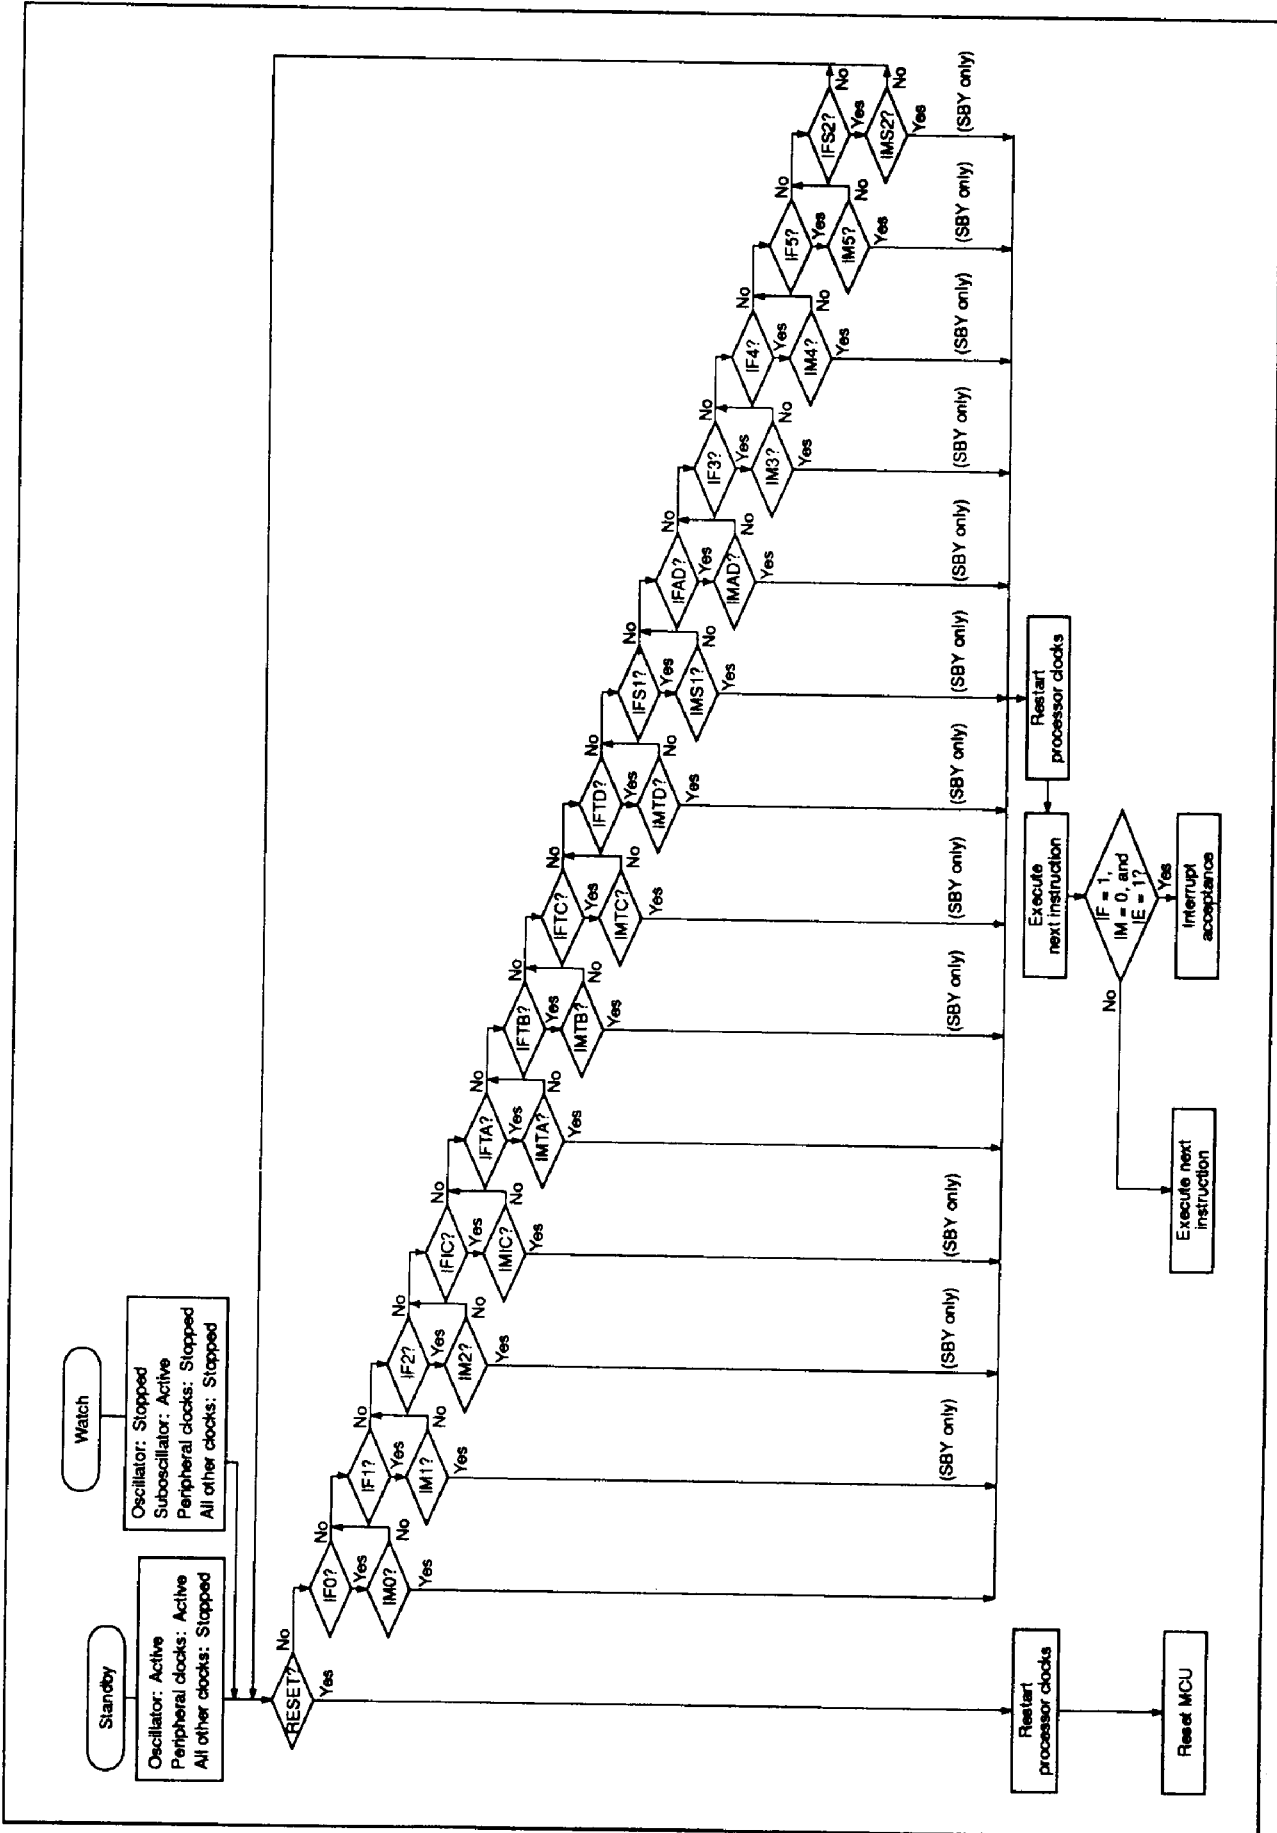
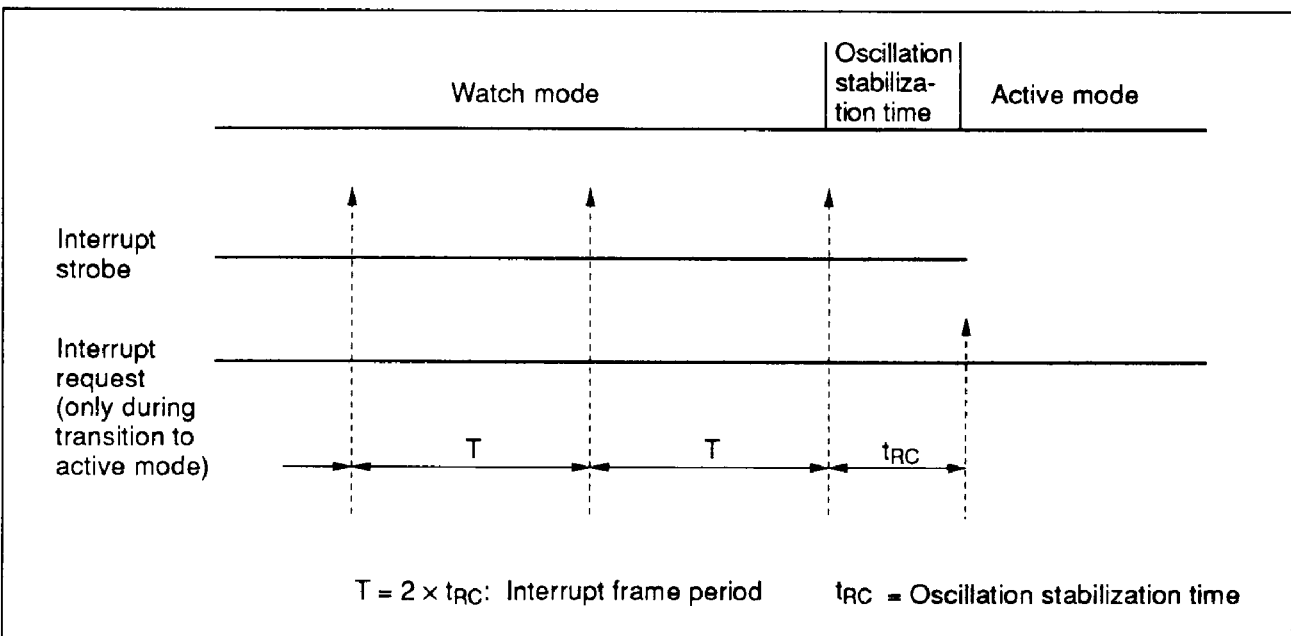
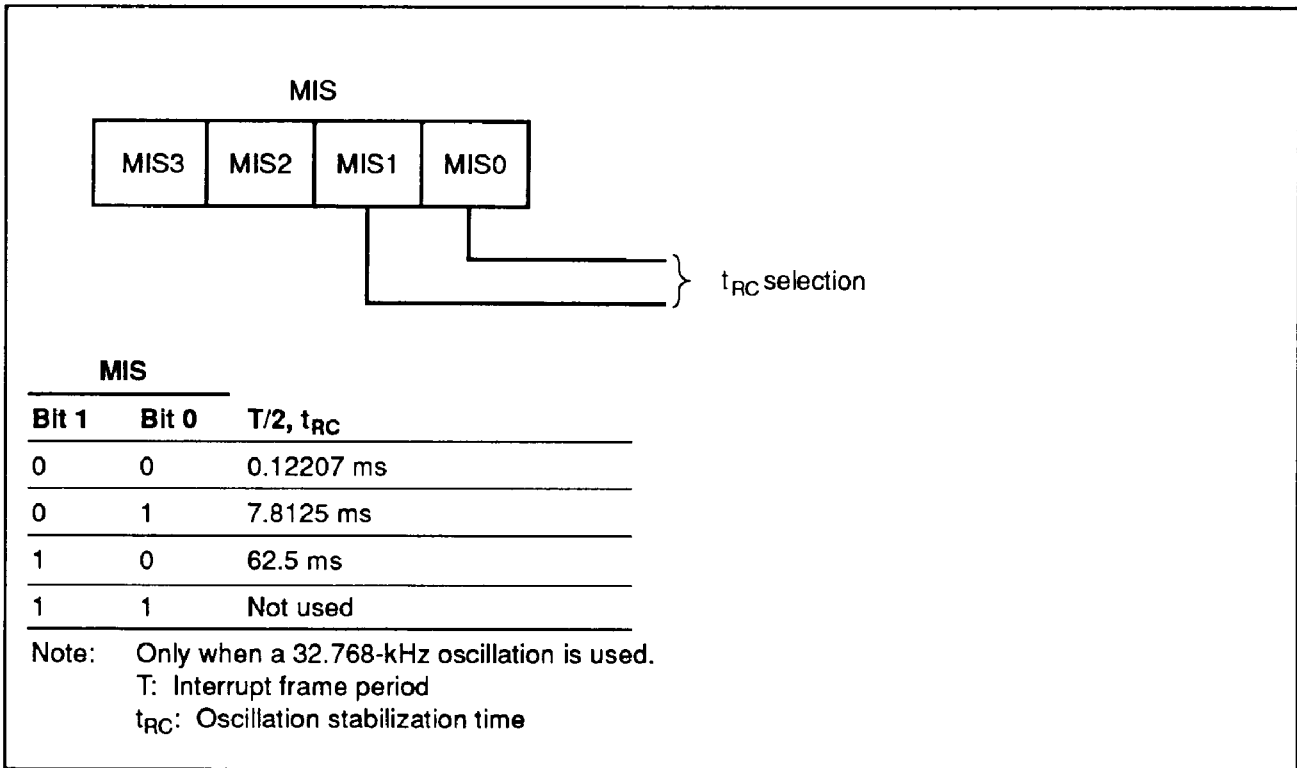

Figure 11 Flowchart of Watch and Standby Modes
Figure 14 Interrupt Frame
Figure 15 Miscellaneous Register
Standby mode is terminated by a RESET input or an interrupt request. If it is terminated by a RESET input, the MCU is reset as well. After an interrupt request, the MCU enters active mode and executes the instruction following the SBY instruction. If the interrupt enable flag is 1, the interrupt is then processed; if it is 0, the interrupt request is left pending and the program is resumed. A flowchart of operation in standby mode is shown in figure 11.
MCU enters active mode if LSON is 0 or subactive mode if LSON is 1. Any interrupt request generated during the transition to active mode is delayed for half the interrupt frame period ( $t_{RC}$ ) to give the oscillation time to stabilize (figure 14). Operation during mode transition is the same as that at stand-by mode cancellation (figure 11).
**Interrupt Frame:** In watch and subactive modes, timer A and  $\overline{INT}_0$  interrupts are generated in synchronism with the interrupt frame. The interrupt frame is repeated at the timing shown in figure 14. Three interrupt frame cycles can be selected by the settings of the miscellaneous register (figure 15).
Operation during the transition from watch mode to active mode is the same as a standby mode cancellation. The overflow timing during the transition to active mode by the timer A interrupt request is the same as the interrupt strobe shown in figure 14.